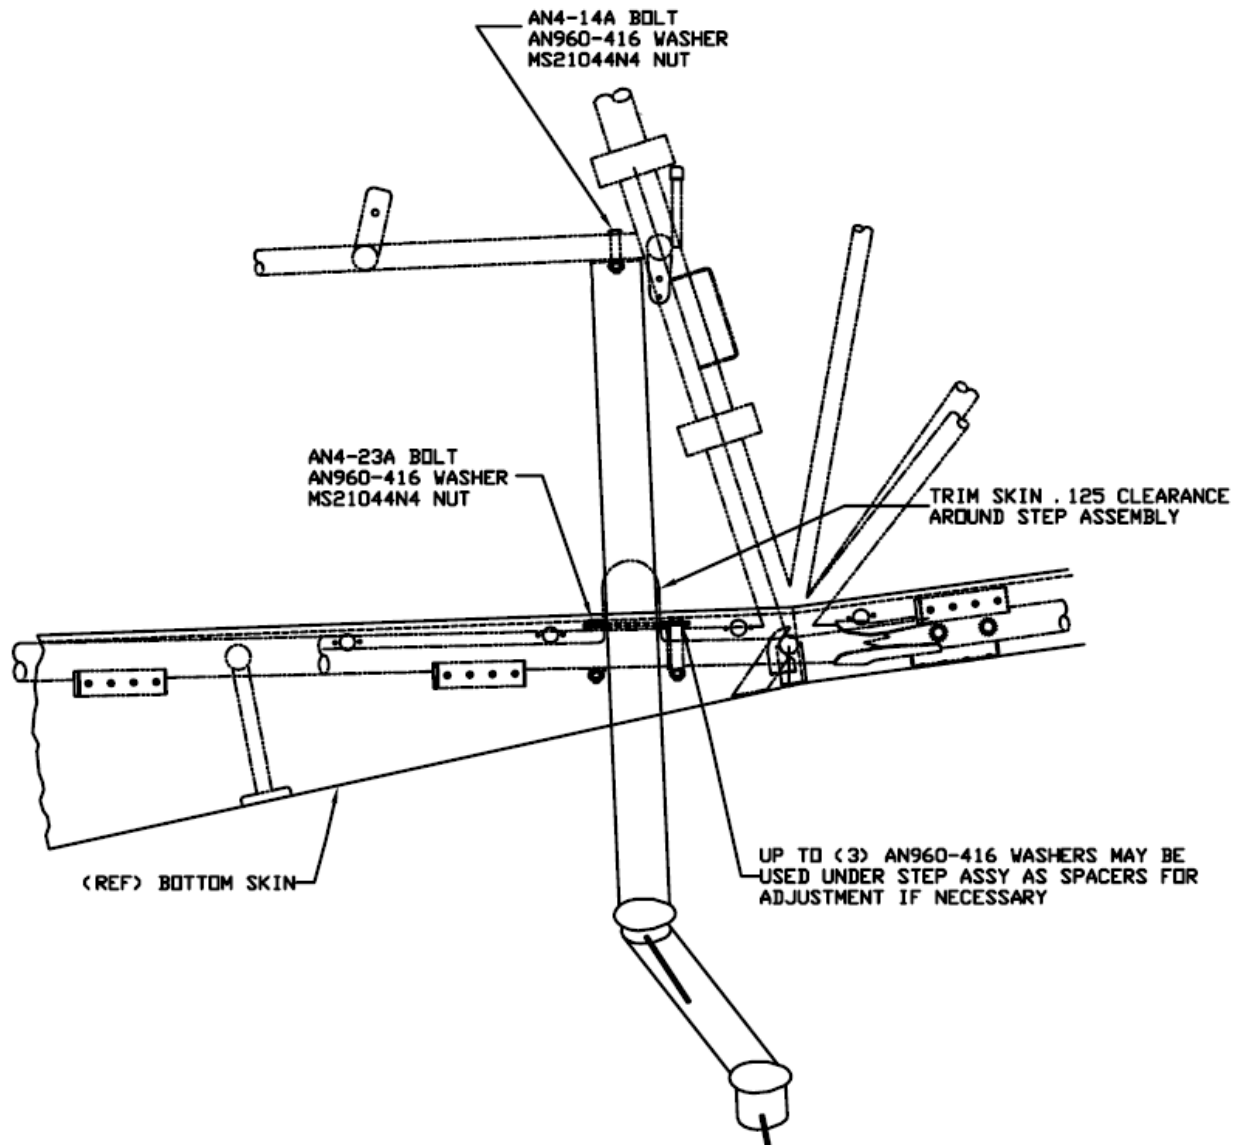

Figure 6
10. Remove skins then trim to fit, ensuring to have .125" clearance around Step Assembly then deburr. (Reference Figure 6)